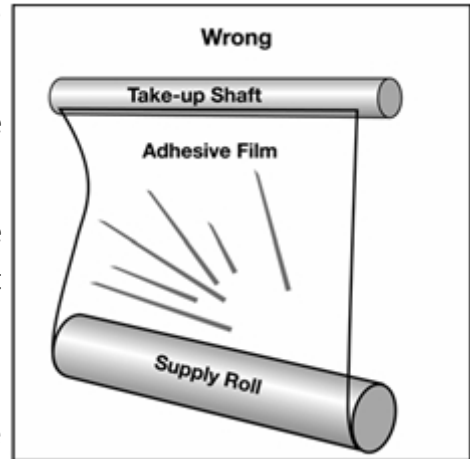

Figure 5g
4. Pull approximately 18" inches of adhesive film forward off the roll and adhere one release liner side smoothly to the take-up shaft, taking care to ensure that the film is square with the supply roll and no diagonal wrinkles are apparent (Figure 5g).